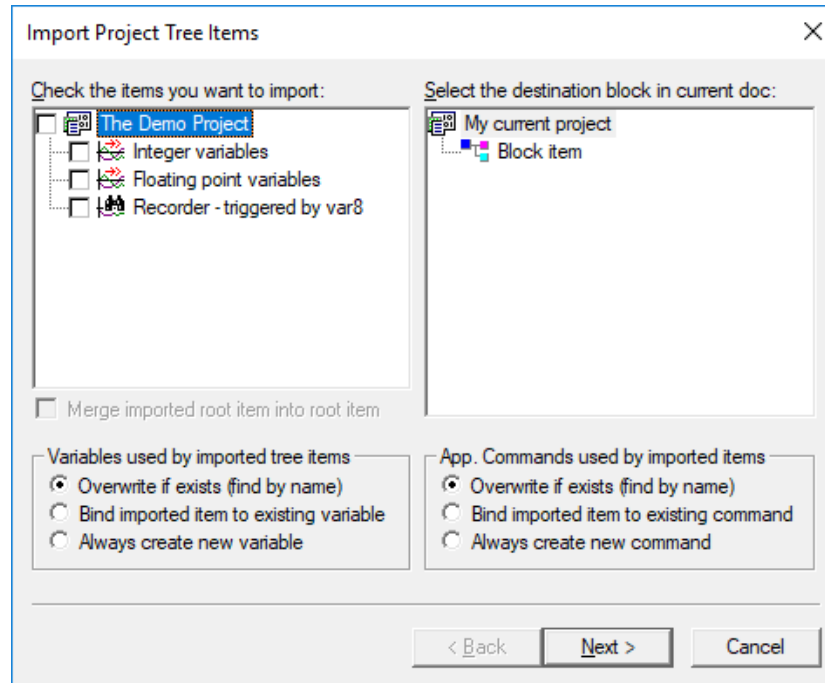

Figure 29. Import Project Tree Items window
The first dialog of the Import procedure is shown in Figure 29. After specifying the name of the original project file, select and check the project tree items you wish to have in your current project. You can also select the target block item under which you want the imported items to be created.
- Variables = tick each variable you want to import. You don't have to import variables that are referenced from the tree items selected in the previous dialog from Figure 29; such variables are always unconditionally imported.